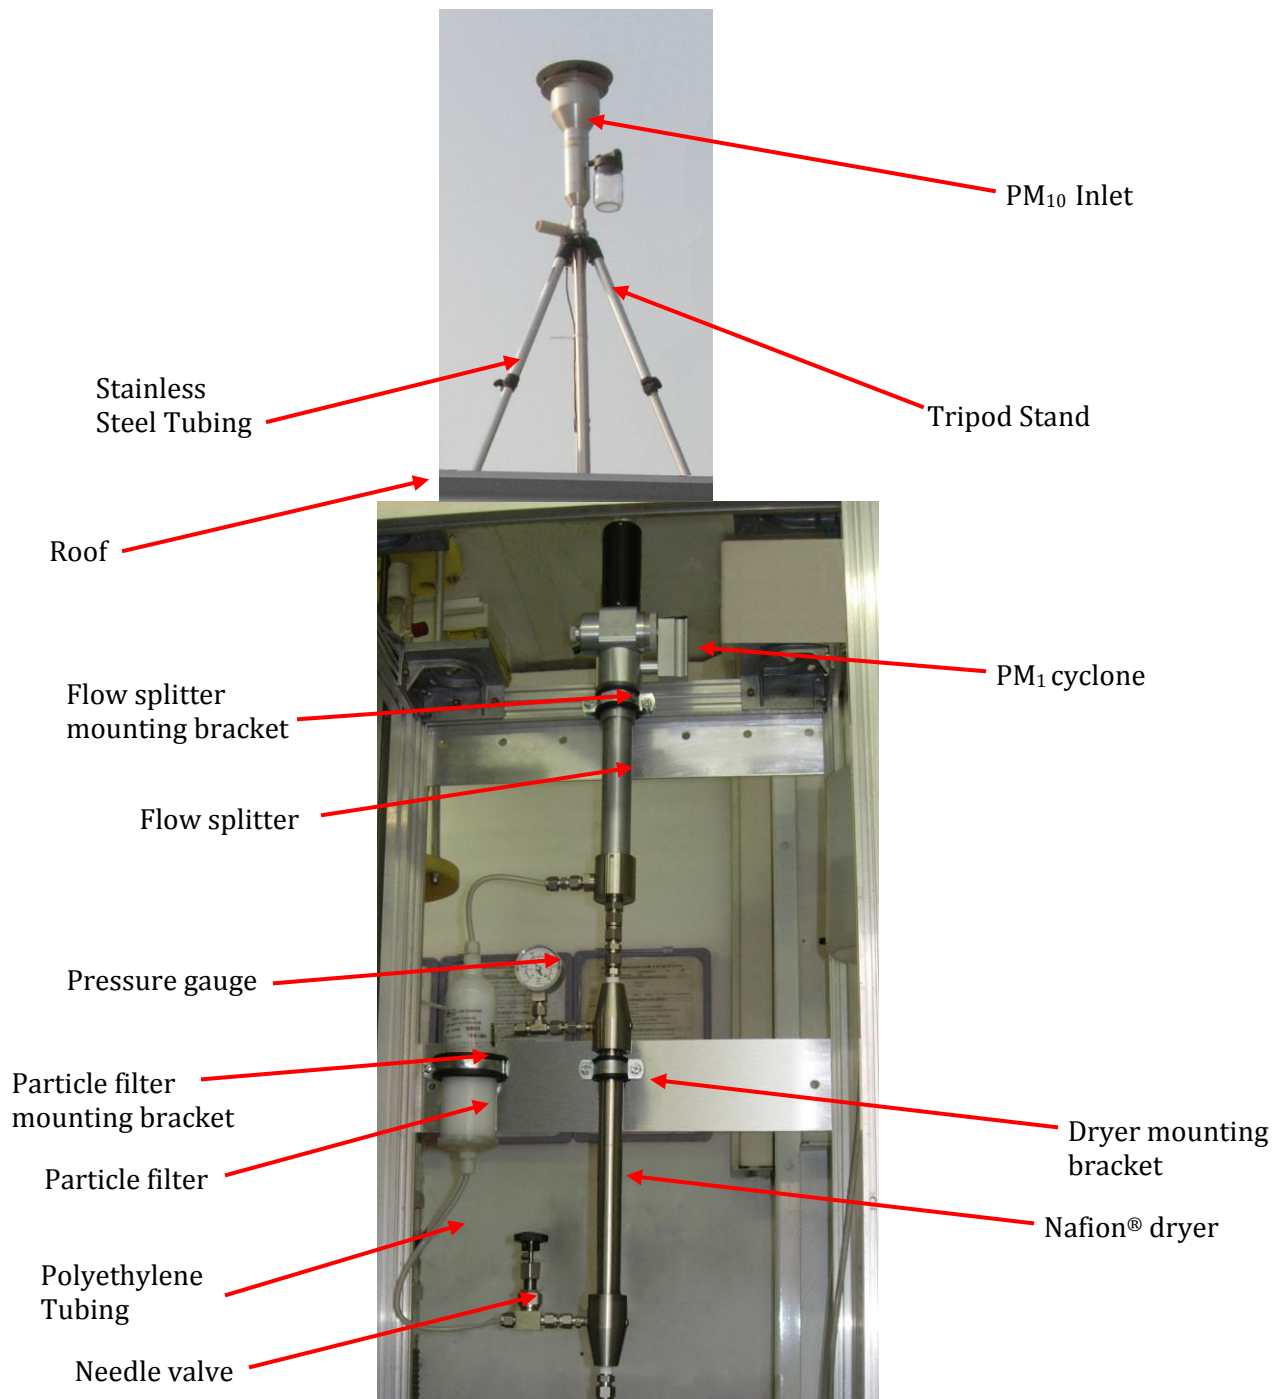

Figure 2. The Environmental Sampling System installed in a sampling station.
1. Mount the dryer system and particle filter securely on a rack (see figure 2).